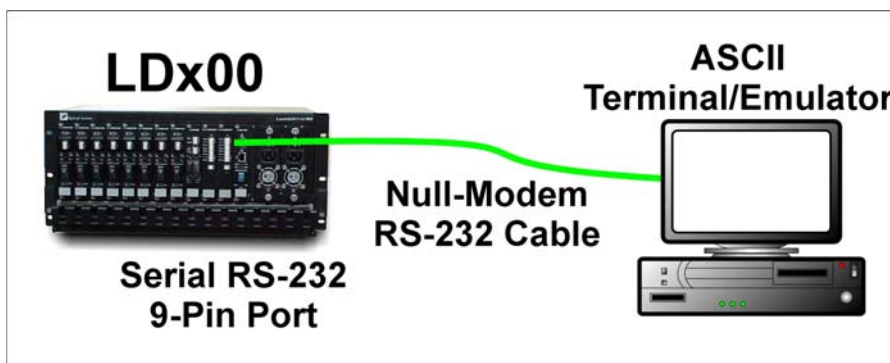

Figure 78: ASCII Terminal/Emulator Connection to LDx00 *Directly*
- **Directly** – as shown in *Figure 78*.